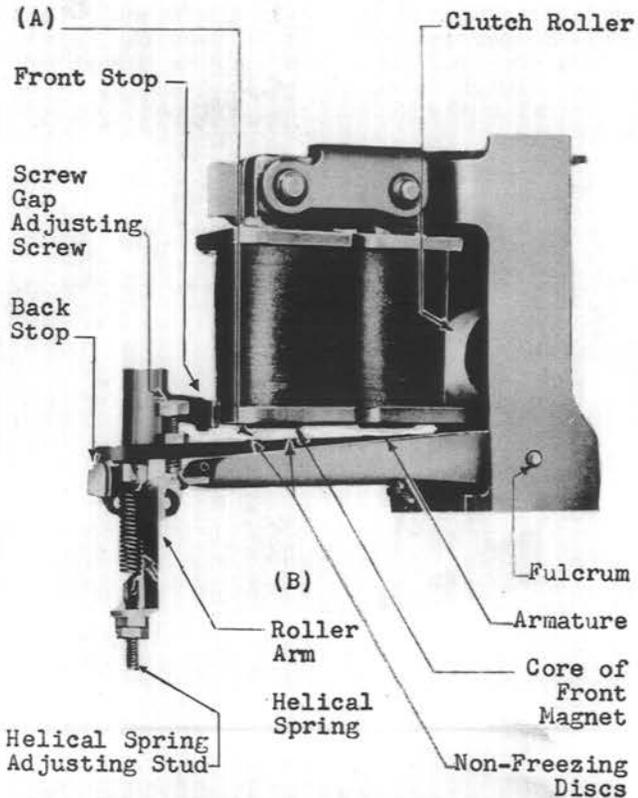

Fig. 8 - Up Drive Armature in Normal Position
2.09 Unoperated Core Gap - Fig. 8 (A):
2.13 Helical Spring Tension - Fig. 8 (B)